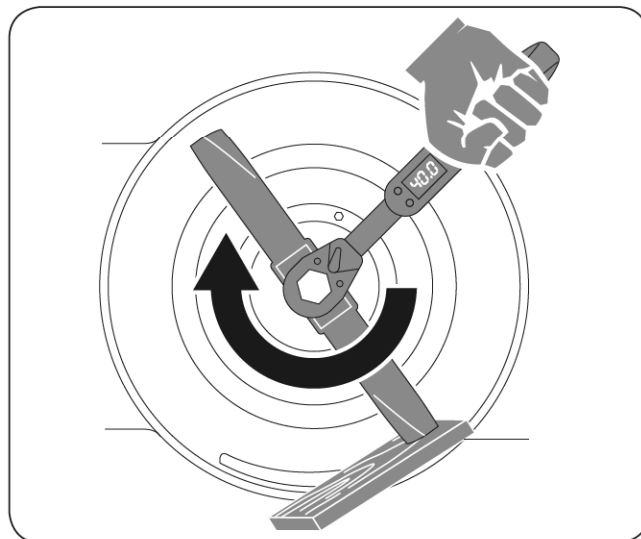

Figure 23
5. Install the new blade. Use a block of wood between the blade and lawn mower housing and tighten the blade bolt, turning clockwise. The recommended tightening torque is 33.3-40 ft.-lb. (45-55 Nm). (See **Figure 23**)